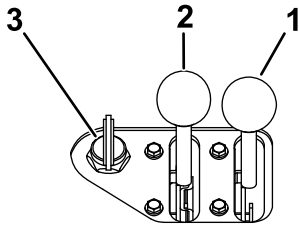

Figure 19
1. Move the throttle lever midway between the SLOW and FAST positions (Figure 19).
- A. Move the choke lever to the ON position (Figure 19).
- B. Turn the key to the ON position (Figure 19). When the engine starts, release the key.
- C. Gradually move the choke lever to the OFF position (Figure 19). If the engine stalls or hesitates, engage the choke again until the engine warms up.
3. For Kohler engines, turn the key to the ON position (Figure 19). When the engine starts, release the key.
4. Move the throttle lever to the desired setting (Figure 19).
2. Move the throttle lever to the SLOW position (Figure 19).